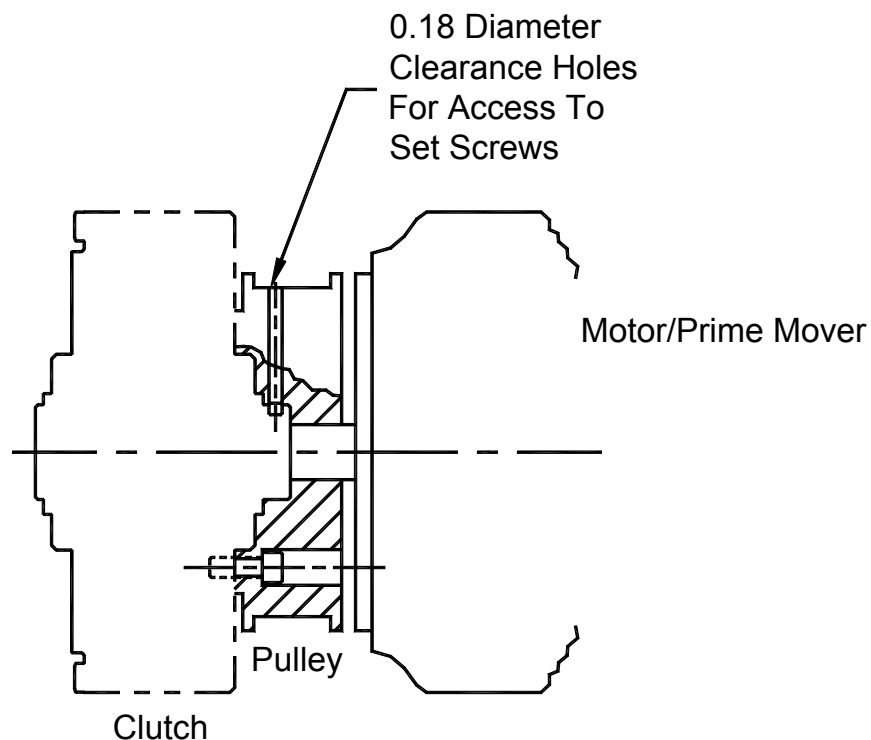

Figure 2
3. Mount and firmly secure clutch on motor or prime mover output shaft as shown in Figure 2.